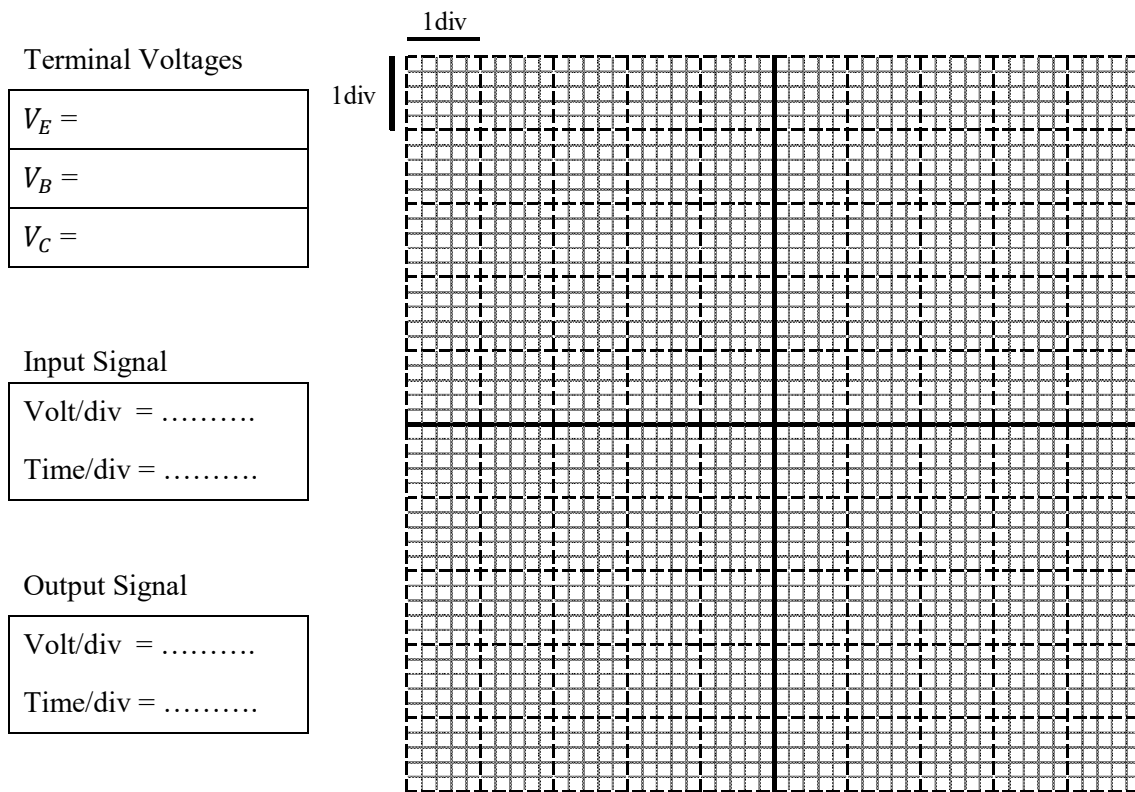

Figure 10: Input signal versus output signal oscillograph and terminal voltage measurements for Class-C.
16. Make sure the Function Generator is off, then measure the terminal voltages; V_E , V_B and V_C and fill the table inside the Figure 10 with measured values.
17. Sketch the input output signal into Figure 10.